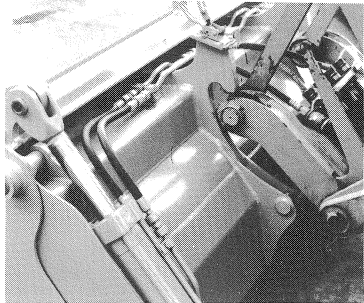

Fig. 21
- (1) Put shovel arm in lowest position and tilt quick-changing frame (Fig. 21).
Standard shovels are mounted as shown in Fig. 21, 22 and 23.